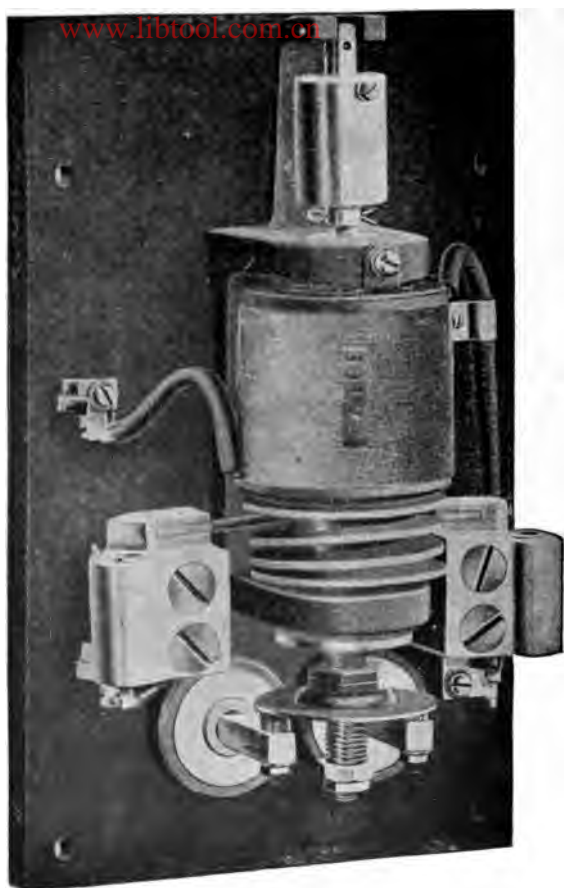

Fig. 498. Current Limit Relay.
36. THE CURRENT LIMIT RELAY (Fig. 498) is located on the switchboard. It consists of an electromagnet provided with two coils. The master control circuit passes through the upper coil and the main circuit for motor No. 1 through the lower coil. The master control circuit coil lifts the plunger for each step during *acceleration and interrupts* the contactor pick-up circuit,